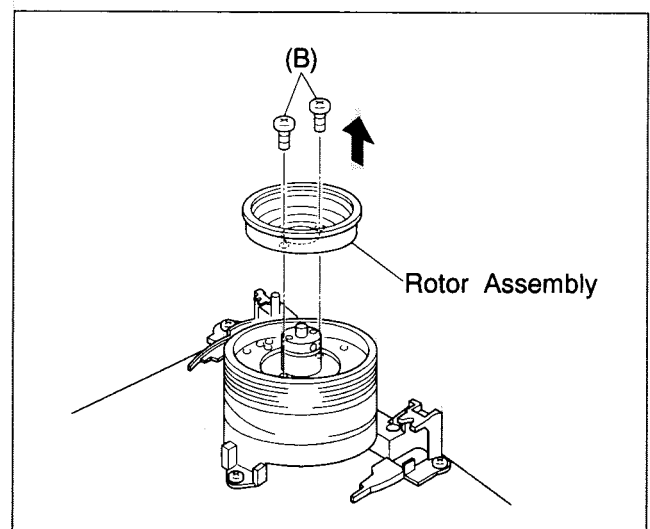

Fig.2-5-23
- (4) Overlap holes (a) of the upper drum assembly with holes (b) of the rotor assembly and secure with 2 screws (B) as indicated in Fig.2-5-23.